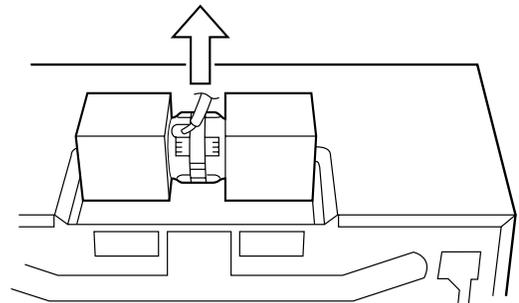

Figure 10
2. Withdraw Hood Fan Unit carefully and slip wires out of Wire Box. See Figure 10. CAUTION: Do not pull or stretch hood fan wiring.
2. Withdraw Hood Fan Unit carefully and slip wires out of Wire Box. See Figure 10 on page 5.